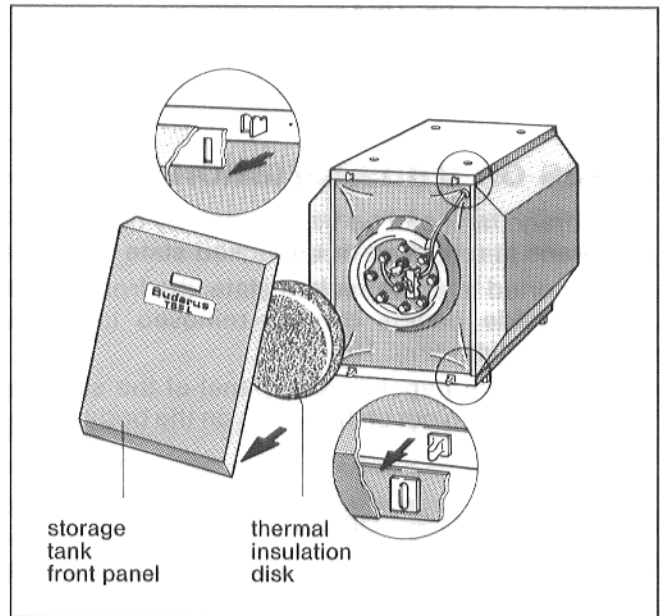

Fig. 12
- Remove the front panel toward the front and take out the high-resilient foam insulating disk (Fig. 12).
- Remove the front panel of the storage tank toward the front and take out the high-resilient foam insulating disk (Fig. 12).